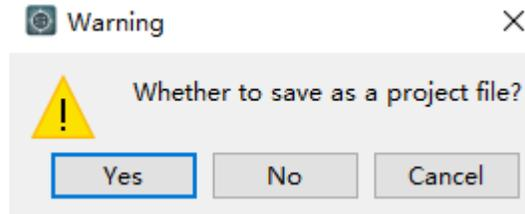

Figure 3-6 Close Project dialog box
- A dialog box (Figure 3-6) will pop up, prompting whether to save the project file.